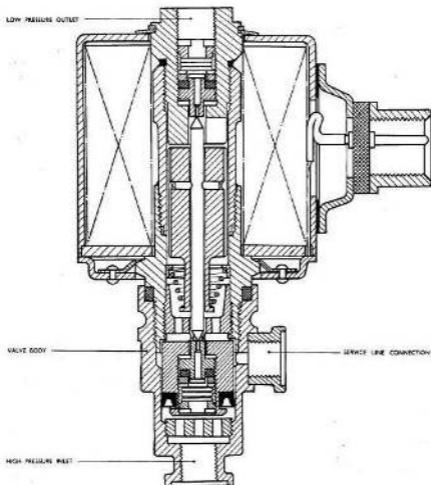
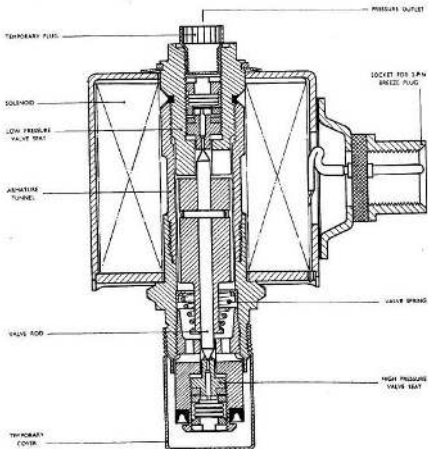

Fig. 1. Valve, Type FAC, with valve body
Fig. 2. Valve, Type FAC, without valve body
2. The valve consists of a solenoid and a valve assembly. Types FAC(A)316 and /319 are fitted with a valve body as an integral part of the valve (fig. 1), but in Types FAC(A)218 and (230) the valve body is not supplied (fig. 2). Electrical connection is made by means of a 2-pin Breeze plug, Type CZ1064/2. The working hydraulic pressure is 2,000 lb. per sq. in., and the test pressure 3,000 lb. per sq. in.